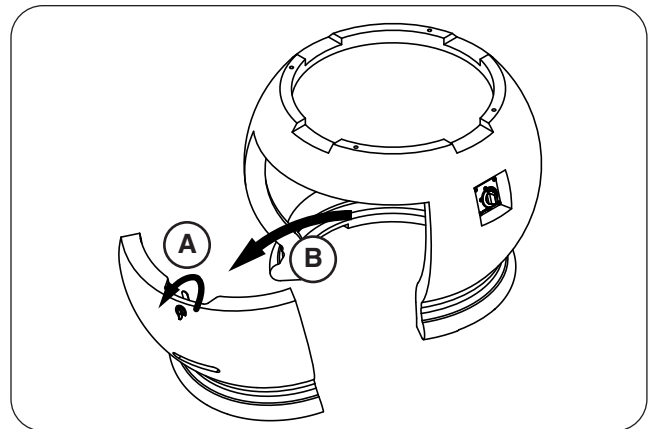

Fig. 28-2 Remove door
2. Remove the storage door by first turning the door handle counter-clockwise, then carefully pulling the door outward (see Fig. 28-2). Store in a safe location.